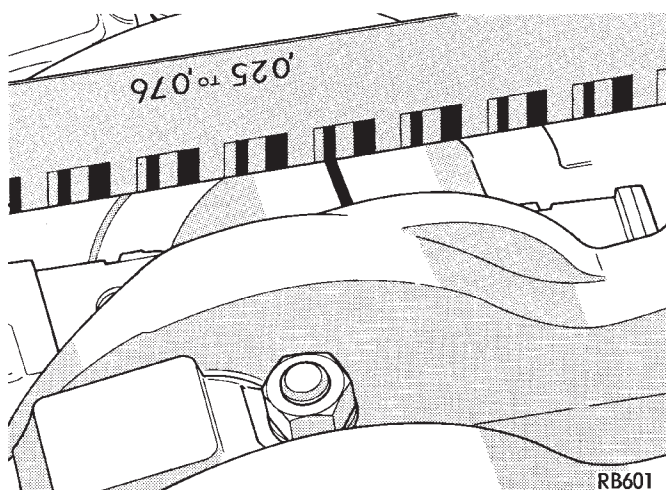

Fig. 7 Measuring Bearing Clearance with Plastigage
- (1) Remove oil from journal and bearing shell.
- (2) Install crankshaft.
- (3) Cut plastigage to same length as width of the bearing and place it in parallel with the journal axis (Fig. 7).
(5) Carefully remove the bearing cap and measure the width of the plastigage at the widest part using the scale on the plastigage package (Fig. 7). Refer to specification (Fig. 5) for proper clearances. If the clearance exceeds the specified limits. Replace the main bearing(s) and if necessary have the crankshaft machined to next undersize. Also see Measuring Main and Connecting Rod Bearing Clearance in Standard Service Procedures.